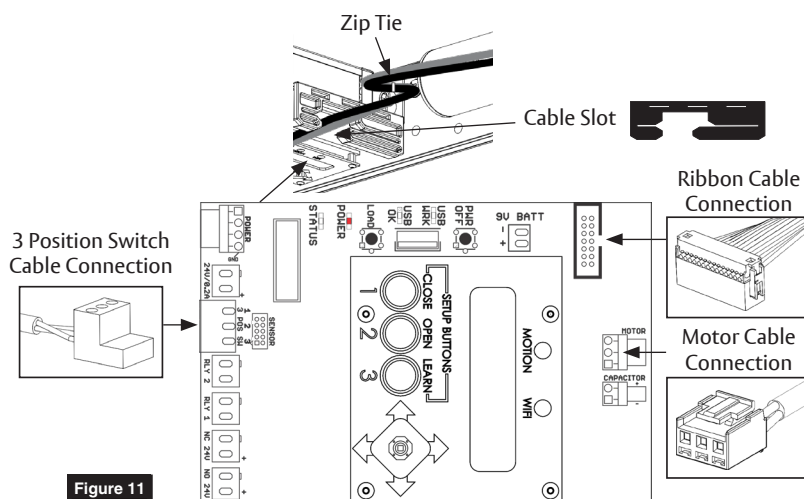

Figure 11
(Figure 11)
- Use slot in power supply to feed connectors to board. (Figure 11)
- Use provided zip ties to manage any excess cable between closer and power supply so that cover can be attached without damaging cables. (Figure 11)
5. Connect 3 Position switch on end cap to power supply. (Figure 11)